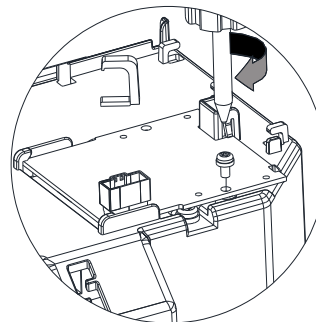

Figure 8-8
5. Use cross screwdriver tighten one M3 screw, the recommended torque is 4-6 kg-cm [3.5-5.2 lb-in] [0.39-0.59 Nm], as shown in Figure 8-8.